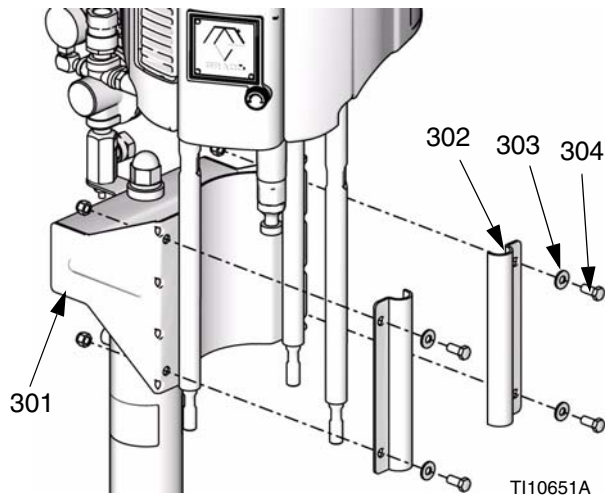

FIG. 27
1. Align and insert tie rods into the displacement pump. See FIG. 27.
3. Position pump assembly against the support (301) so that the clamps (302) will fit over the tie rods.